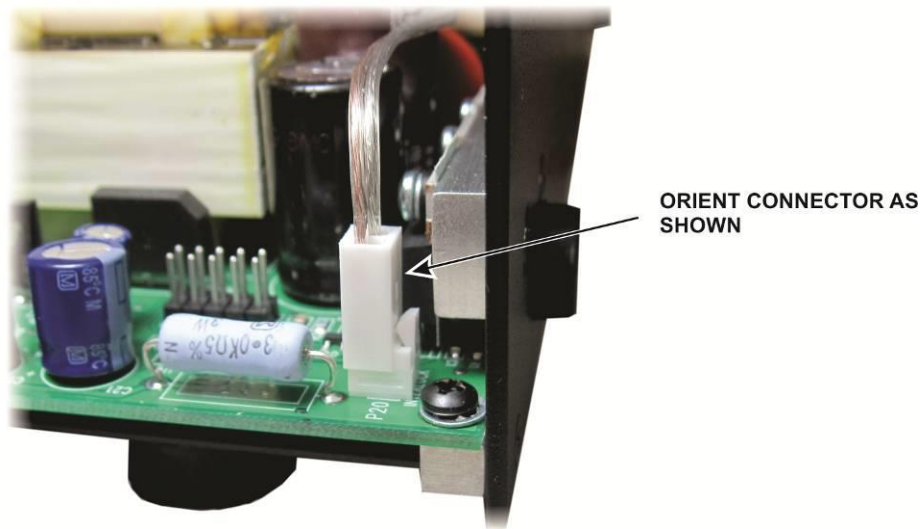

Figure 35. Connecting the Interlock Cable to the Power Supply Module.
□ Connect the cable from the interlock switch on the left side panel to the power supply module as shown in Figure 35.
- ❑ Replace the left side panel using the screws you removed earlier. Be sure to reconnect the interlock switch to the power supply module (see Figure 35 on page 26) and ensure the interlock switch cable is not trapped between the side panel and the heat spreader.